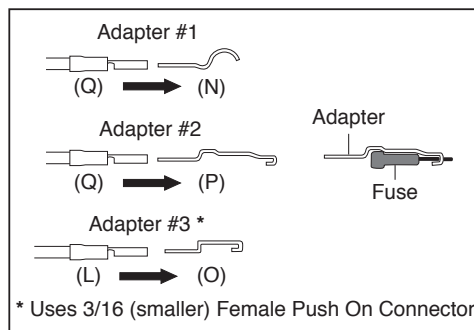

fig. 15
- c. Connection to the fuse terminal will depend on what type of fuse your vehicle uses. If your vehicle uses the barrel type fuse, use adapter #1. If you have the standard spade type fuses, use adapter #2. Many late model vehicles use a smaller spade type fuse which requires adapter #3 (fig. 15). If you use adapter #1 or #2 you will need to crimp on a 1/4" (14-16GA) female connector supplied in kit. If you use adapter #3 you will need to crimp on 3/16" (14-16GA) female connector supplied in kit.